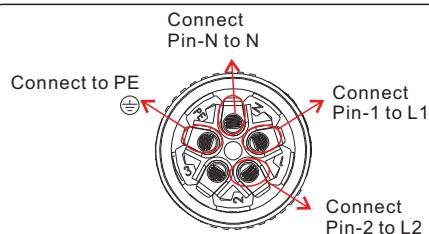

Figure 4.8 Single-phase connection
- Connect L1, L2, L3, N and PE to pins 1, 2, 3, N and PE. (see figure 4.8)